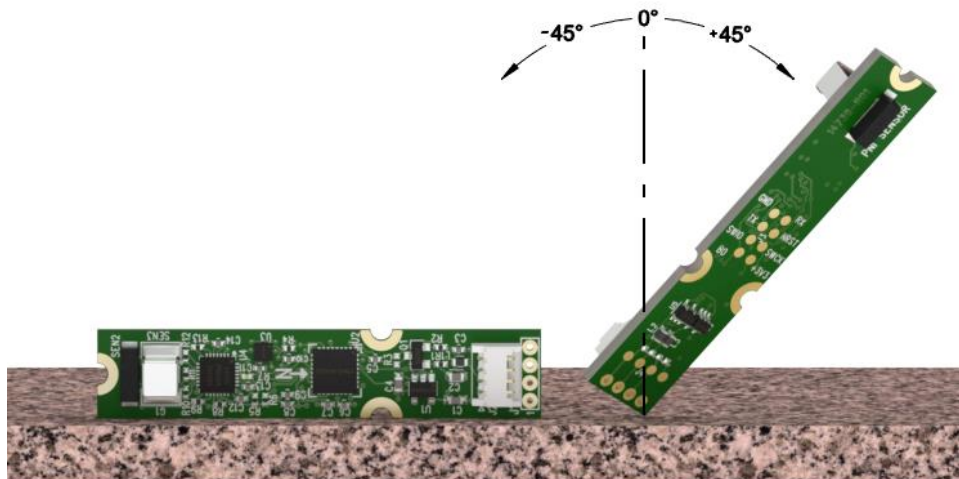

Figure 5-2: Accelerometer Calibration Starting Positions
Figure 5-2 shows the two basic starting positions for Accelerometer Only Calibration. Calibration can occur within the user's system or with the module alone. It is not necessary to place the SeaTRAX-85° on a flat surface as shown, but it must be held very still during calibration, and holding it against a stable surface is a way to help ensure this.
- Starting with the SeaTRAX-85° as shown on the left in Figure 5-2, rotate the module such that it sits on each of its 6 faces. Take a calibration point on each face.